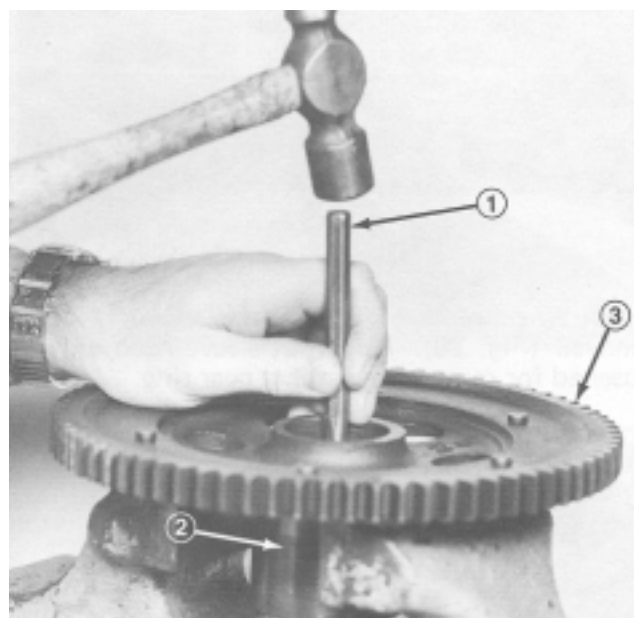

Figure 20
7. Use a drift pin punch to remove bearing cups from hub (Fig. 20).